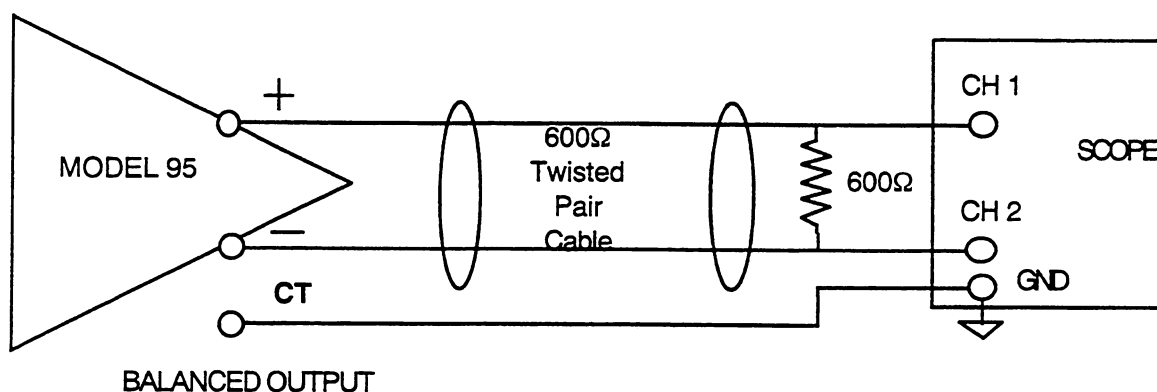

Figure 2-6. Fourth Setup
19. Press the key combination of SHIFT (31) key and SELECT key (36) until both the 600Ω and BAL indicators (37) light.
20. Press the AMPLITUDE key (5) and use the keypad to set the output level to 10 Vpp (press 1, 0, ENTER).
21. Connect the balanced output to the scope inputs as shown in figure 2-6.